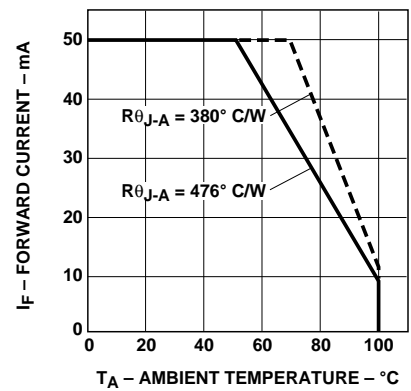

Figure 4. Maximum Forward Current vs. Ambient Temperature for HLMA-/HLMT-QL00/QH00/PL00/PH00. Derating Based on $T_{j,MAX} = 110\text{ }^{\circ}\text{C}$.
3. Derate linearly as shown in Figure 4.